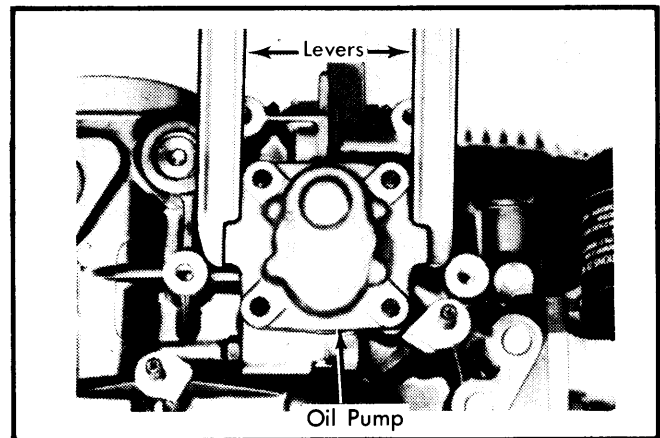

Fig. 15 Using Levers to Remove Oil Pump
**Removal** – Remove engine. Remove 4 nuts holding oil pump. Using 2 levers, pry oil pump out of crankcase. See Fig. 15.